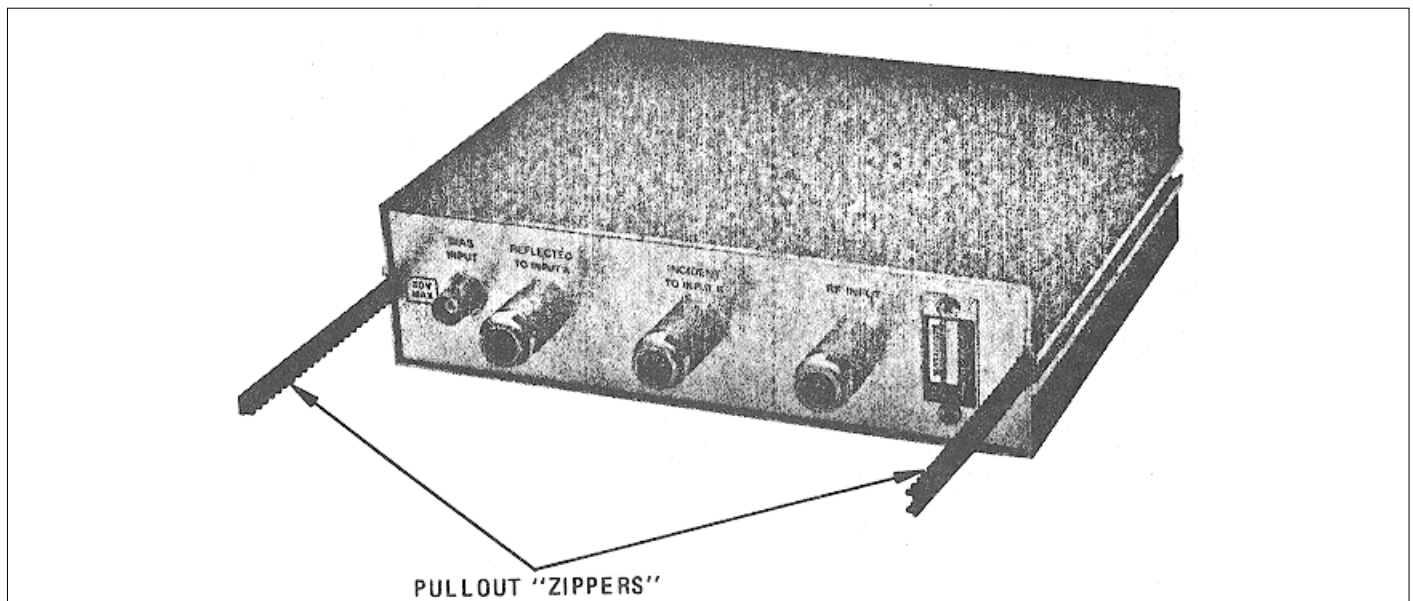

Figure 24. Model 8502A Case Disassembly
60. Place the HP Model 8502A top side down on a flat surface. Squeeze top and bottom of case together by applying pressure at end being opened. Using a small screw driver, push each "zipper" lock toward the rear panel (Figure 24) until you are able to grasp it firmly with your thumb and index finger. Pull the "zippers" from the 8502A case, then lift the case bottom from the instrument.